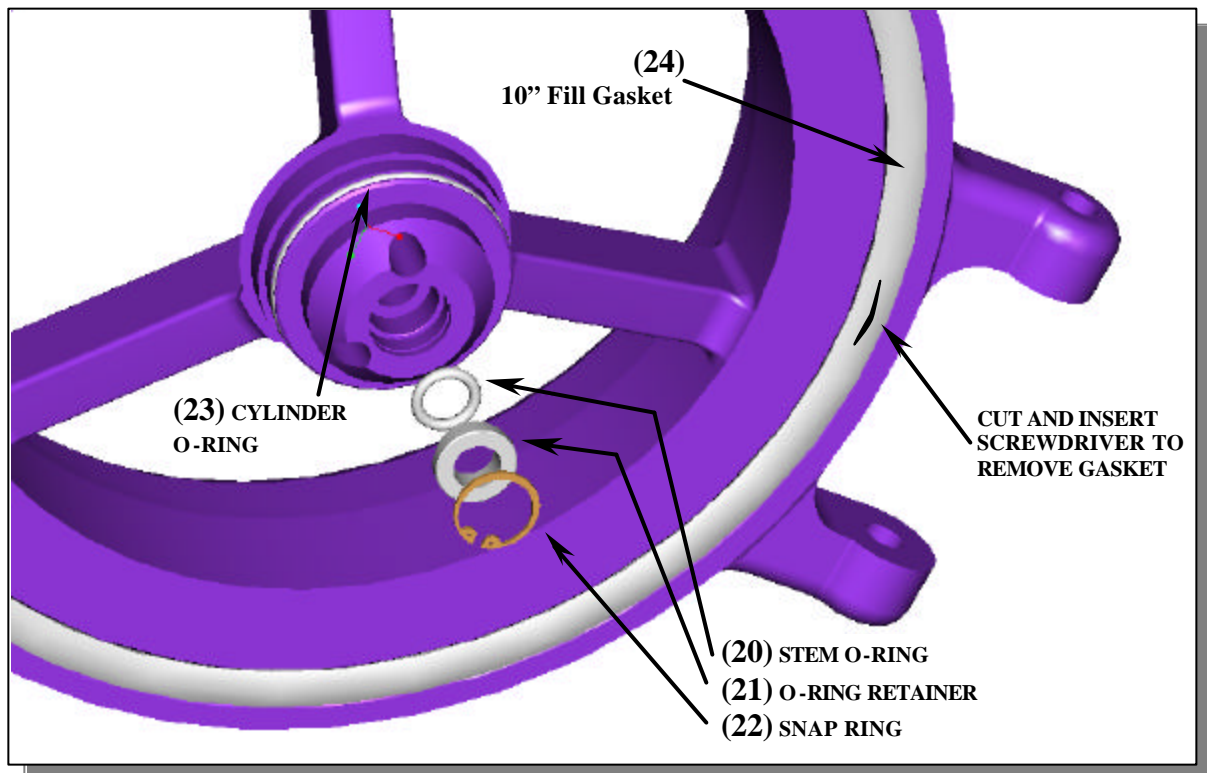
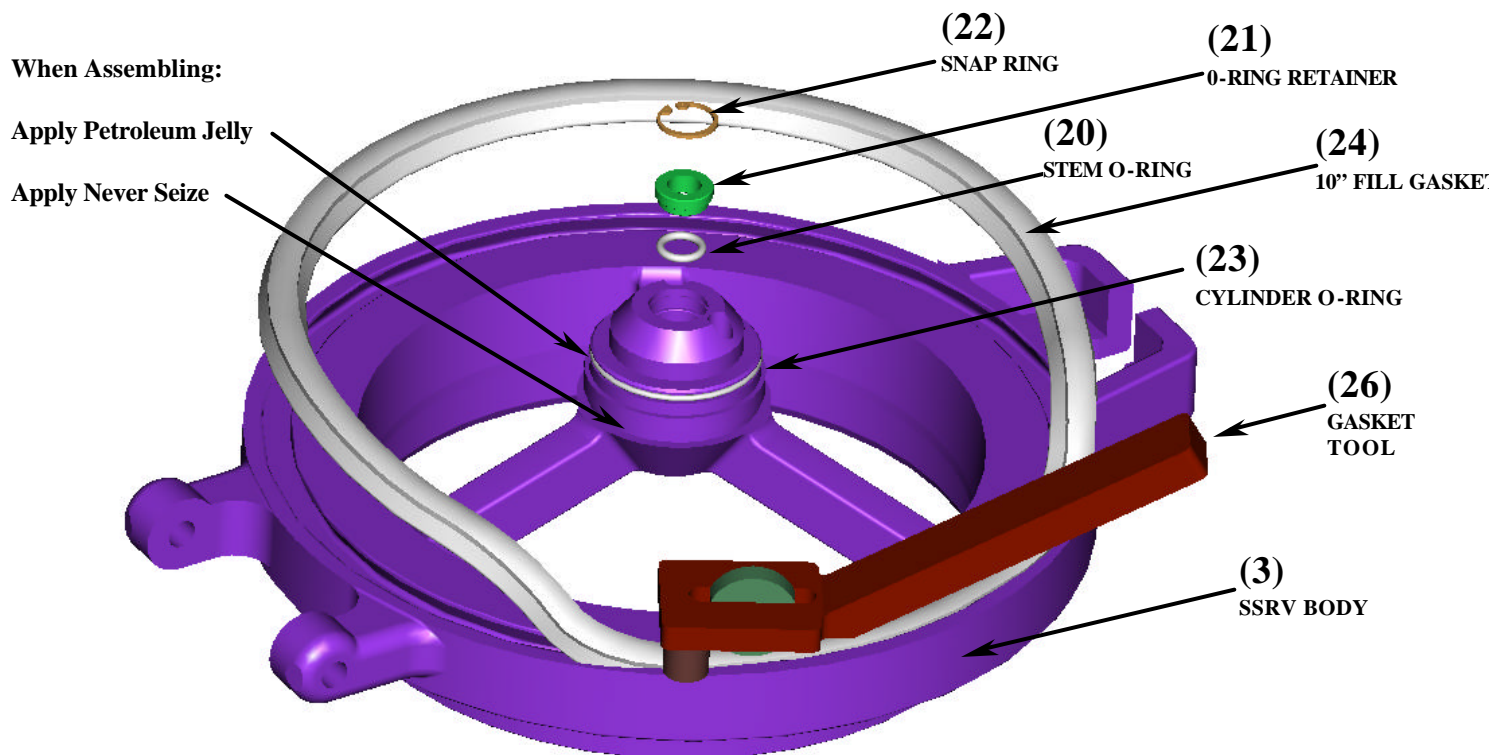

Figure 10
Figure 13
11. The *Stem O-ring* (20) and *O-ring Retainer* (21) are removed by using a snap ring tool to remove *Snap Ring* (22). See figure 10.
12. If the *Cylinder O-ring* (23) requires removal, cut the o-ring with a razor blade being careful not to damage the o-ring groove.
13. If the *10" Fill Gasket* (24) requires removal, cut a small slot in the center of the gasket and use a screwdriver to pry gasket out of dovetail groove, being careful not to damage groove. See figure 13.
3. Body sub-assembly: Refer to figure 13.
- 3.4 Use Betts' *Dove Tail Gasket Tool (26)* (part # 6504AL) to place *10" Fill Gasket (24)* into *SSRV Body (3)*. See figure 13.
- 6.1 Smear petroleum jelly around *Cylinder O-ring (23)* and smear never-seize compound on the threads of the *SSRV Body (3)* as shown in figure 10 of section 3.